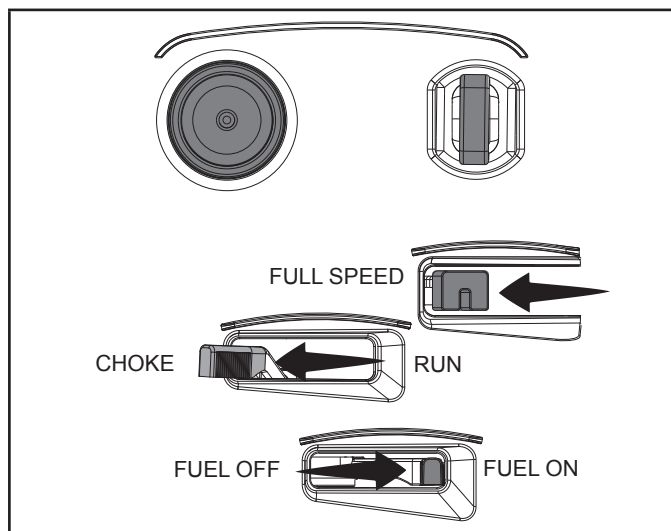

Figure 10
3. To start a cold engine: (Fig. 10).